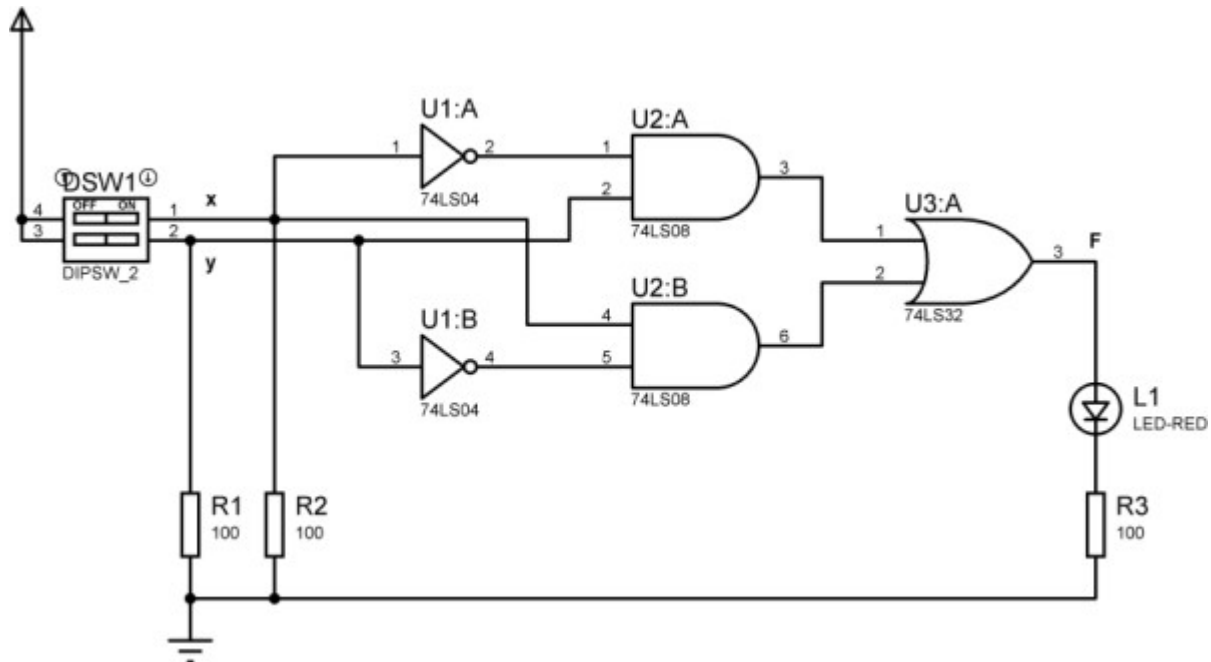

Figure 7 Logic circuit example #2.
Figure 7 is a logic circuit with inputs x and y via the dual-inline package (DIP) switch. The output is a single LED.
1. Draw the circuit in **Figure 7** using EAGLE schematic editor. Use standard and agreed schematic symbols and the required packages. Replace non-standard designators. Properly terminate the power supply connection. Refer below for the component packages (search the component and proper package in the library).